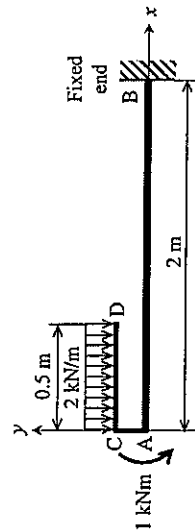

Figure 1
1. A cantilever AB is subjected to a uniformly distributed load along CD and a moment at A as shown in Figure 1. Rigid member ACL is firmly fixed to the cantilever at A. The cantilever has constant EI . Ignore the weight of the cantilever and rigid member.